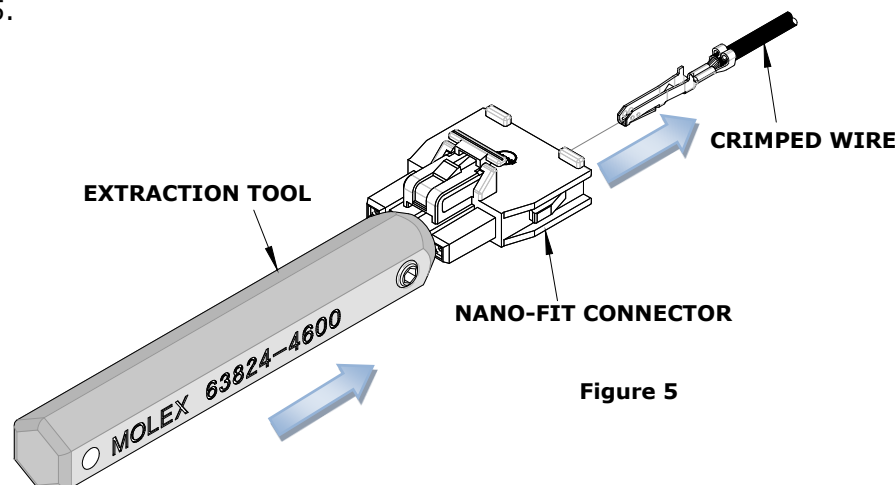

Figure 5
5. Holding the extraction tool against the housing, gently pull the crimped wire out of the connector. See Figure 5.